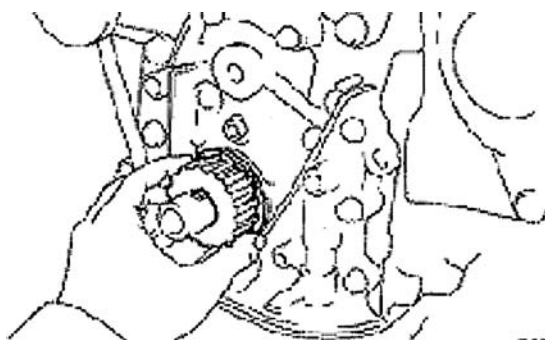

Figure 76
3. Install oil pump oil seal. See (Figure 76)
7. Install engine rear oil seal. See (Figure 76)